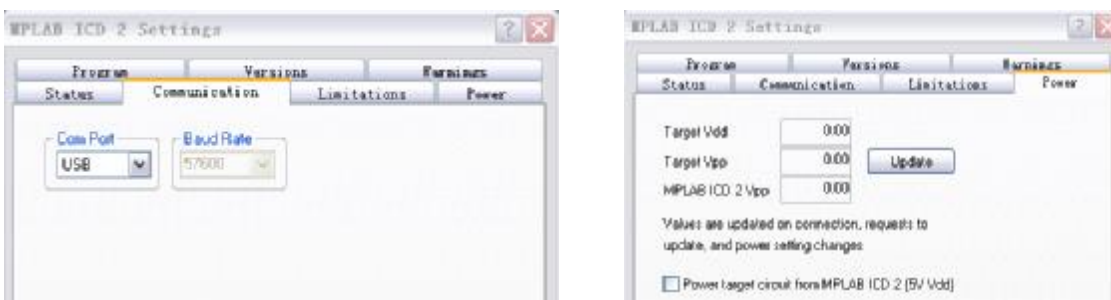

Figure 5-3 Set up communication ports and power supply for target board
- 3) Implement the menu command Debugger → Settings to select the USB as the communication port, and the board will use its own power supply (i.e. disable "MCD2 power from the target board". It is shown in Figure 5-3.